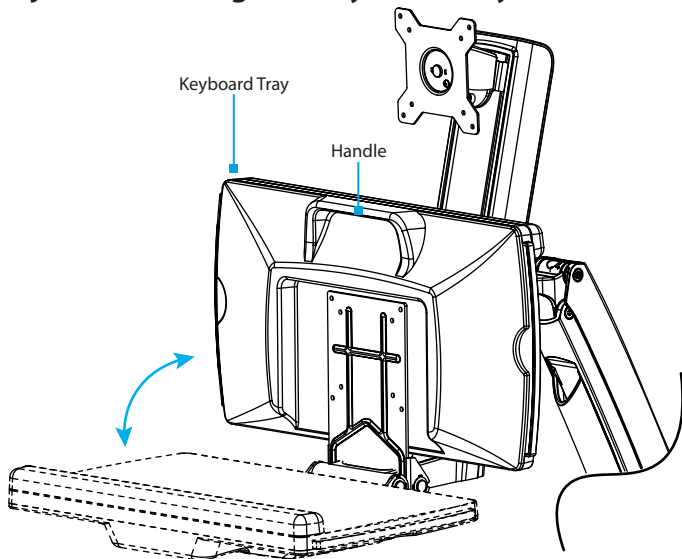

Figure 16
1. Grab the **Keyboard Tray** by the sides or use the **Handle**. **Pull Up** or **Push Down** on the **Keyboard Tray** to adjust the angle between 0° to 90°. (Figure 16)